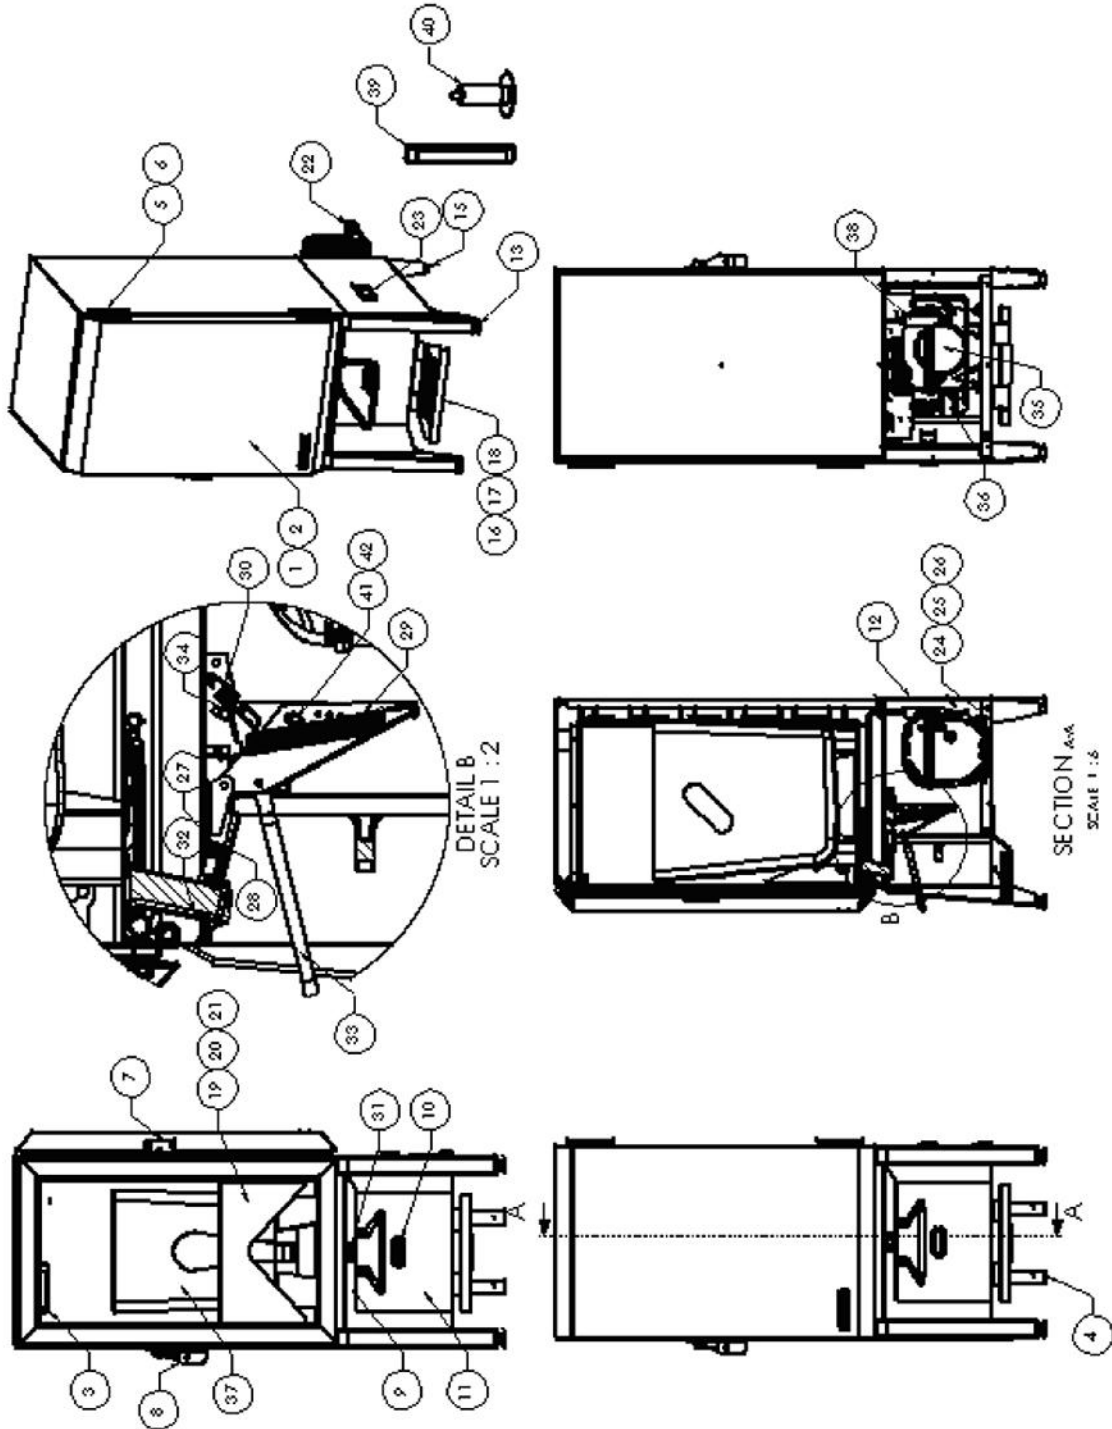

Figure 1
To clean the valve, start by removing the bottom valve body cap (item 31 in Fig. 1) by prying it down and off. Remove the valve jaw (item 32) by pushing up through the bottom of the valve and pulling it out the top of the valve. Clean all loose parts and the valve (in place) with a solution of warm water and mild soap or a sanitizing solution and rinsing afterwards. Replace the valve jaw by sliding it into the valve from above and pressing down on the valve jaw until it 'snaps' firmly onto the valve push rod. Replace the bottom valve body cap.
To stop a valve from dripping milk, start by removing the splash guard (item 9 in Fig. 1) by hand and the apron (item 11) with a Phillips screwdriver. Locate and loosen the adjustment nut and bolt (items 41 and 42) shown in the valve cross section in Figure 1. Remove the milk tube from the valve. Raise and drop the valve handle (item 33) several times until the valve jaw (item 32) is tight to the front of the valve opening when the valve arm is fully lowered. Re-tighten the adjustment nut and bolt and replace the apron and splash guard. Also make sure that the milk tube is cut as close as possible to the valve.